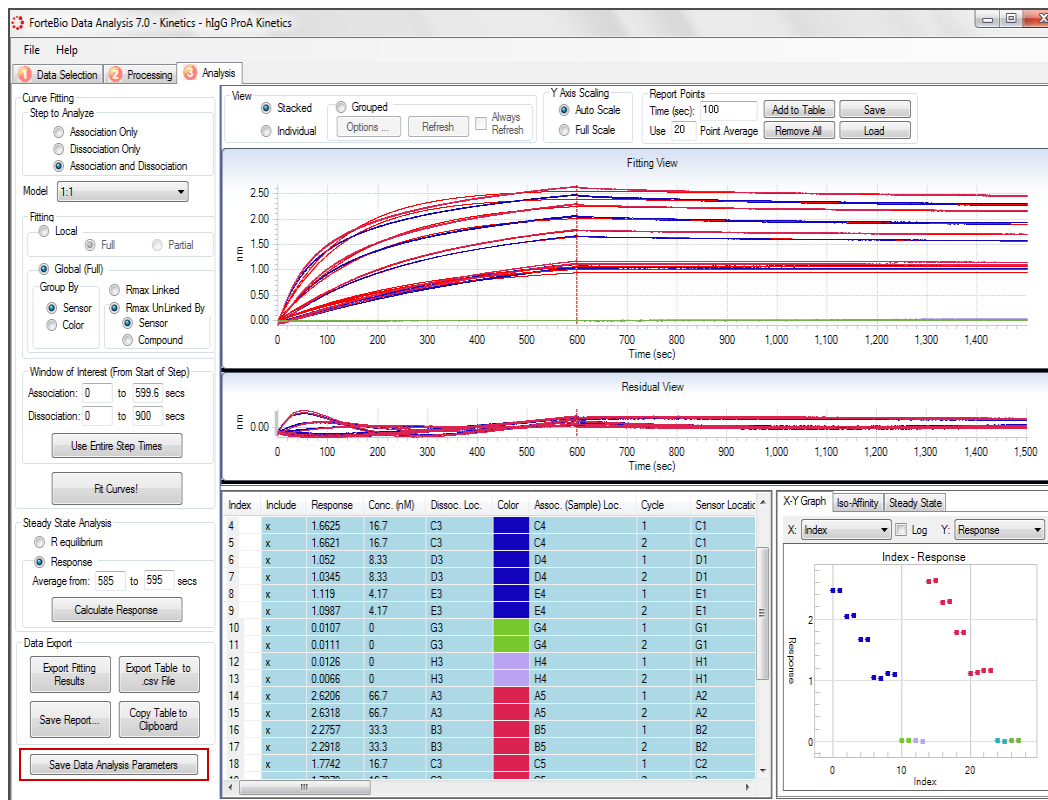

Figure 5-39: Save Data Analysis Parameters Button—Analysis Window
3. Save the settings in the Analysis window: click **Save Data Analysis Parameters** (Figure 5-39).